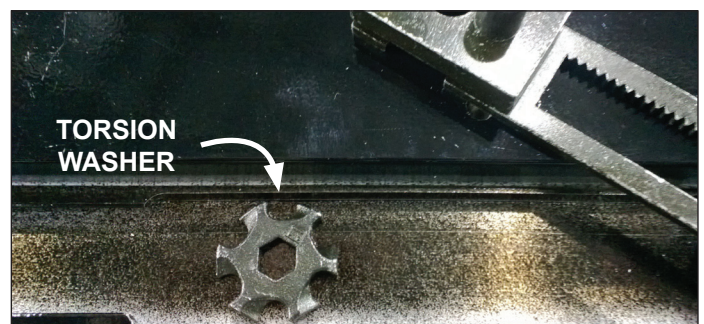

Fig 4.13 The torsion washer is located beneath the door-squaring mechanism.
5. Unscrew and remove upper and lower striker plates (Fig. 4.13).